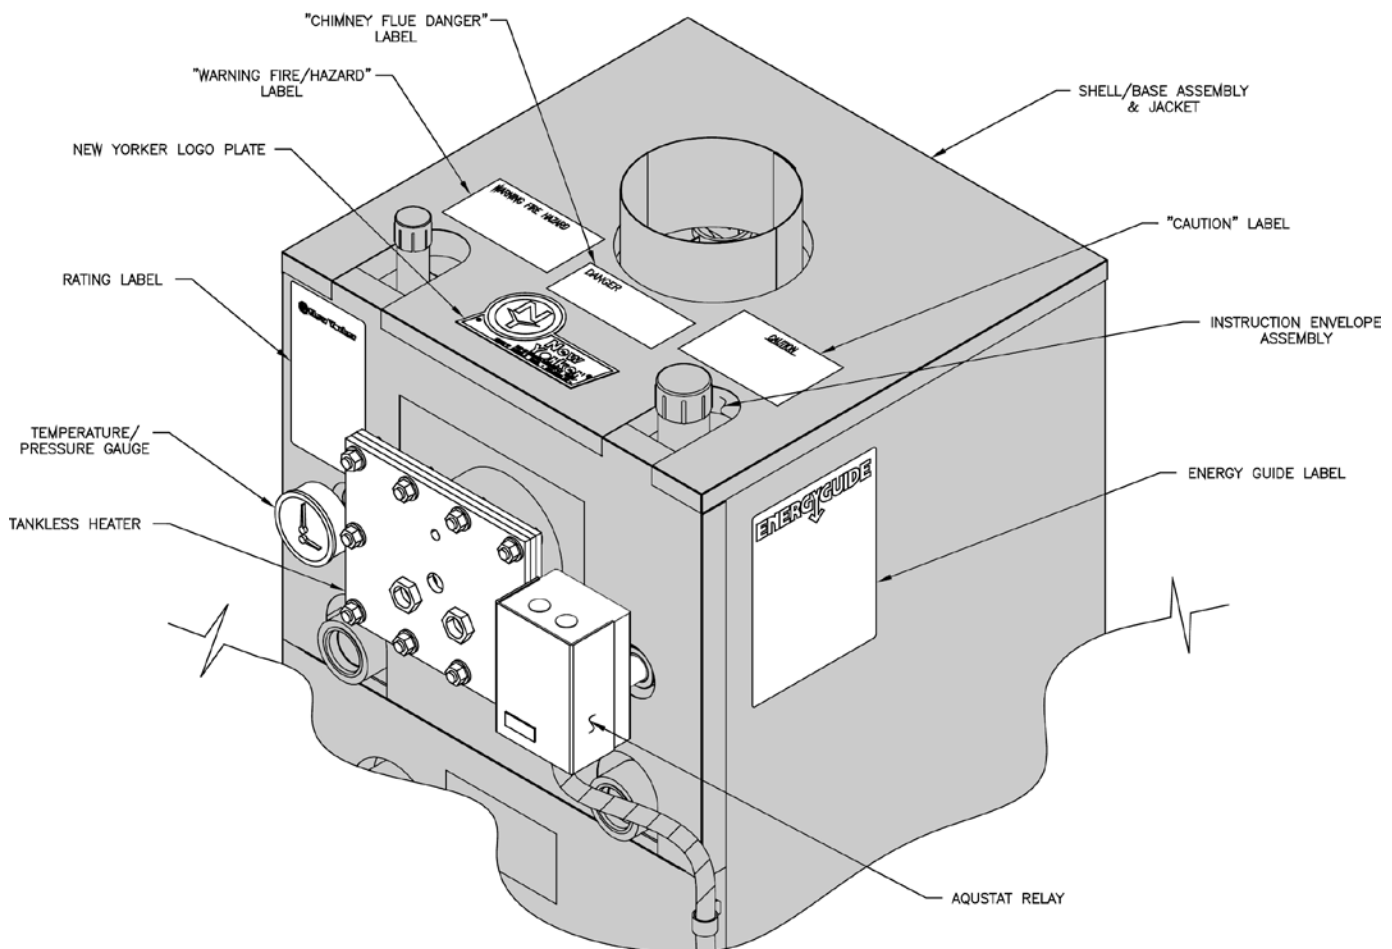

Figure 6: Label Locations
8. Attach provided New Yorker logo plate to installed Top Jacket panel with two #8 x 1/4 sheet metal screws. See Figure 6.
9. Remove labels from the adhesive backed label-containing envelope and attach them to jacket panels. See Figure 6 for approximate label positioning.